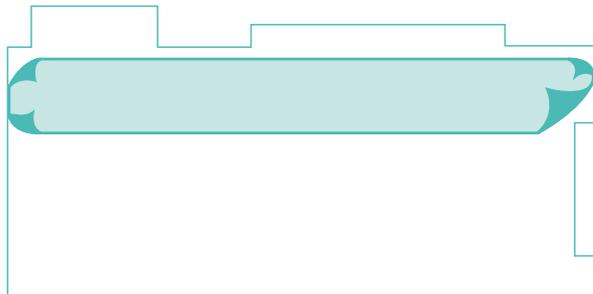

Figure 34 Lining up the first sheet
- ▶ Adjust the lie of the sheet so that the inner edge is parallel with the axis of the room (fig. 34).